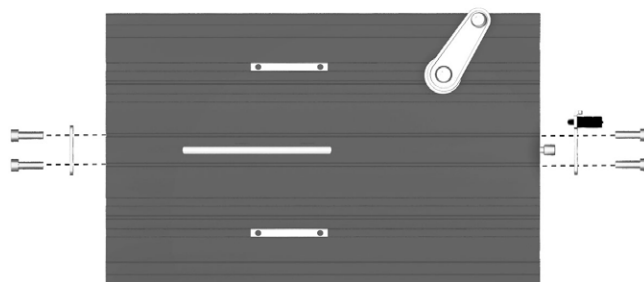

Figure 198. The adjustment bar brackets are each held in place by two screws.
8. Remove the adjustment bar brackets, which are each held in place by two screws. See fig. 198.